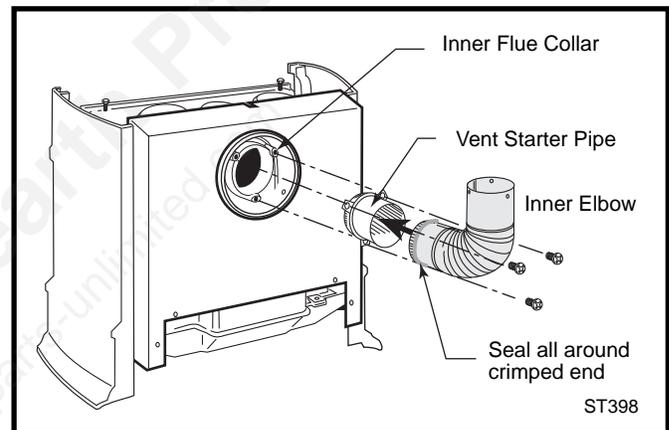

Fig. 29 Install inner starter pipe and inner elbow.
- Run a bead of sealant beneath the pipe bead and attach to the stove using three 1/4-20 x 3/8" phillips screws provided in the parts bag. (Fig. 29)
- Run a bead of sealant about 1/2" from end of the starter pipe and attach the assembly to the stove using three 1/4-20 x 3/8" Phillips screws provided in the parts bag. (Fig. 29)